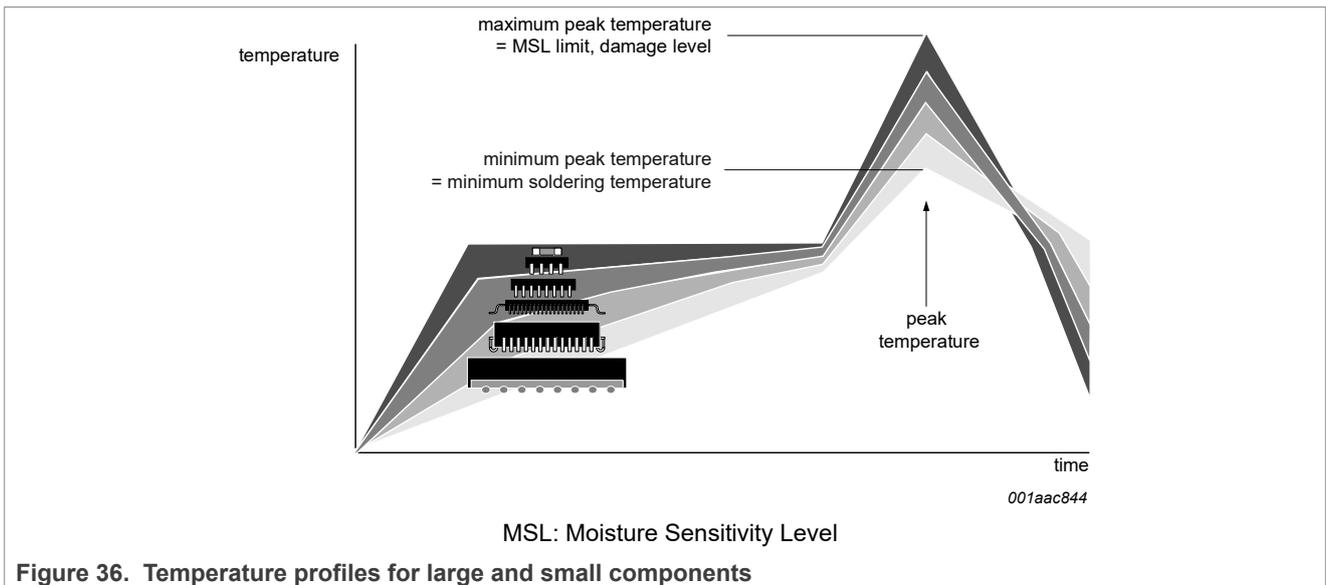

Figure 36. Temperature profiles for large and small components
- Lead-free versus SnPb soldering; note that a lead-free reflow process usually leads to higher minimum peak temperatures (see Figure 36) than a SnPb process, thus reducing the process window
Studies have shown that small packages reach higher temperatures during reflow soldering, see Figure 36.